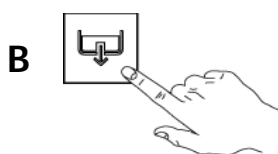

Fig.42
- 2- Press button "B" to start drain out the water and wait until all the water is completely drained out from the tank. (Fig.42)